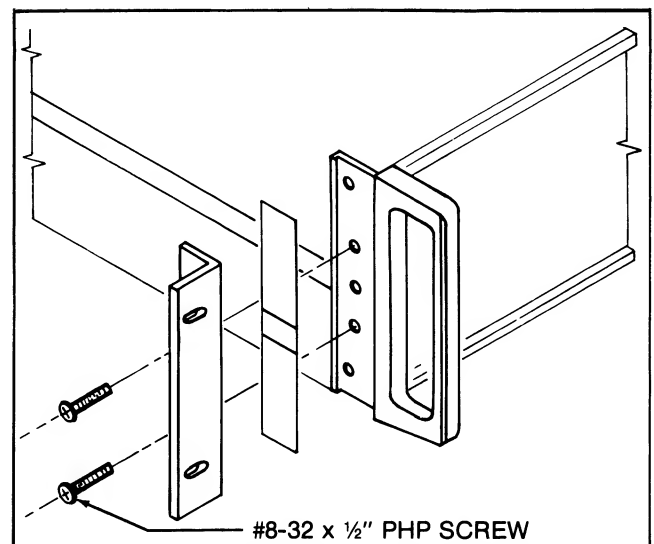

Figure 6-1. Rack Adapter Installation
2. Refer to Figure 6-1. Using the screws supplied with the kit, attach the chassis section (B) of the slide kit to each side of the 5450A.
3. Install the cabinet section (C) of the slide kit in the equipment rack. Bar units, #10-32 KEP